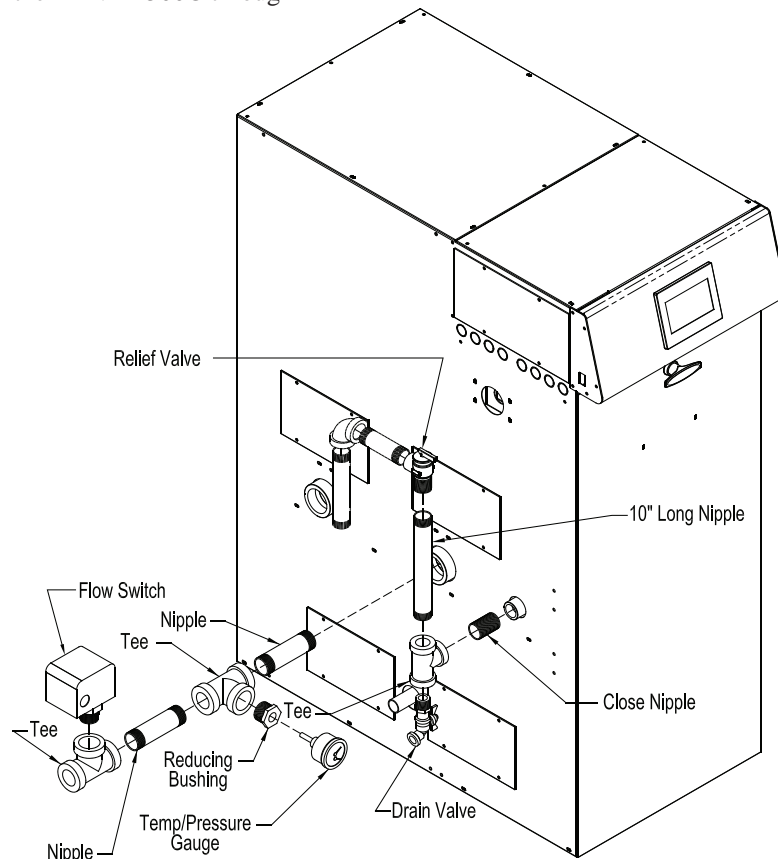
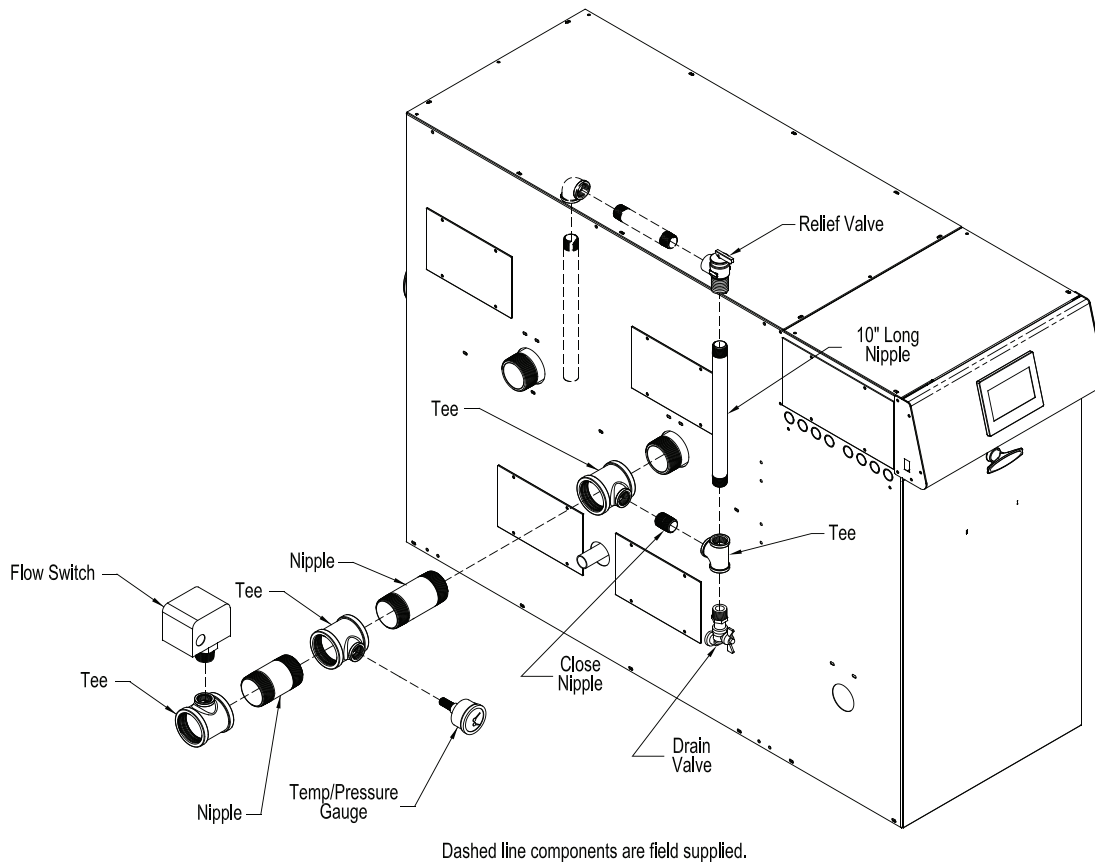

Figure 25: Factory Supplied Piping and Trim Installation - PHNTM399C
Figure 26: Factory Supplied Piping and Trim Installation - PHNTM500C, PHNTM600C, PHNTM700C, PHNTM800C
1. **Install provided components** per Figure 25 for PHNTM399C or Figure 26 for the PHNTM500C through PHNTM800C. Rear tapping is return/inlet. Front tapping (middle on PHNTM399C) is supply/outlet. Piping and trim components are located in miscellaneous parts carton shipped with the boiler.
1. Safety Relief Valve (Required) – The safety relief valve is packaged loose with boiler and must be installed in the location shown in Figure 25 or 26 “Factory Supplied Piping and Trim Installation”. The safety relief valve must be installed with spindle in vertical position. Installation of the safety relief valve must comply with ASME Boiler and Pressure Vessel Code, Section IV. The standard factory shipped safety relief valve is set at 50 psi (340 kPa) on PHNTM399C & PHNTM500C, and 60 psi (410 kPa) on PHNTM600C, PHNTM700C & PHNTM800C. Optional 80 psi (550 kPa) and 110 psi (689 kPa) safety relief valve kits are available. If the safety relief valve is to be replaced, the replacement valve must have a relief capacity equal or exceeding the minimum relief valve capacity shown on the heat exchanger ASME plate. Also, when replacing the safety relief valve, verify the temperature and pressure gage meets ASME requirements for the replacement safety relief valve. Pipe the safety relief valve discharge to a location where hot water or steam will not create hazard or property damage if the valve opens.
11. **Drain Valve (Required)** – Drain valve is packaged loose with boiler and must be installed in the location shown in Figure 25 or 26 "Factory Supplied Piping and Trim Installation".